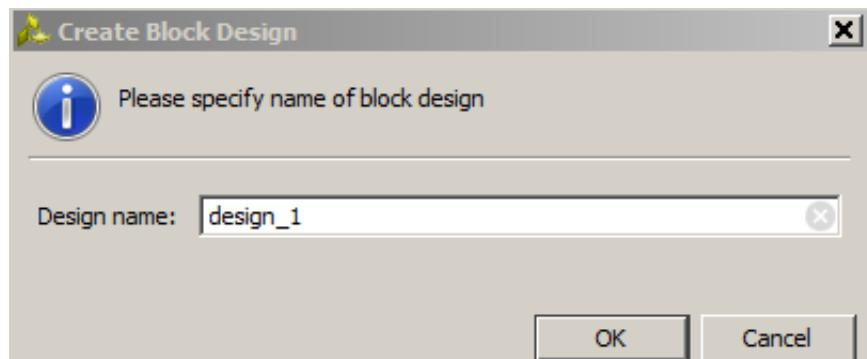

Figure 22: Create Block Diagram Dialog Box
13. In the **Create Block Design** dialog box, (Figure 22), keep the default name, **design_1**, and click **OK**.